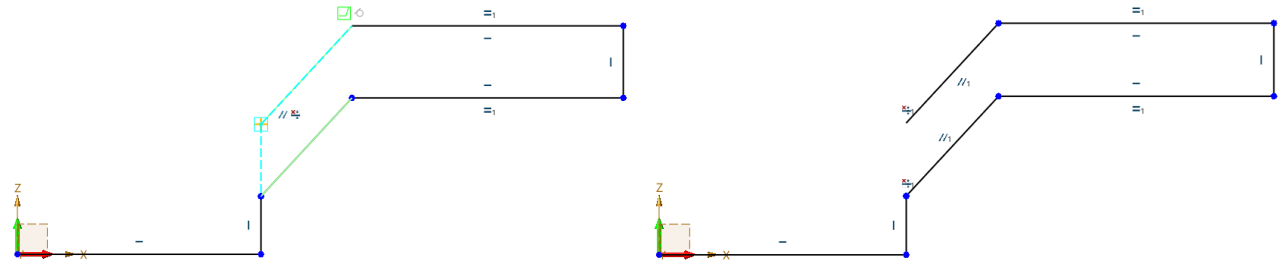

Figure 84 Drawing the Parallel Slanting Line
STEP 04 Draw a slanting line parallel to the slanting line below and keep their endpoints vertically aligned, as shown in the left side of Figure 84 to get the result on the right side.